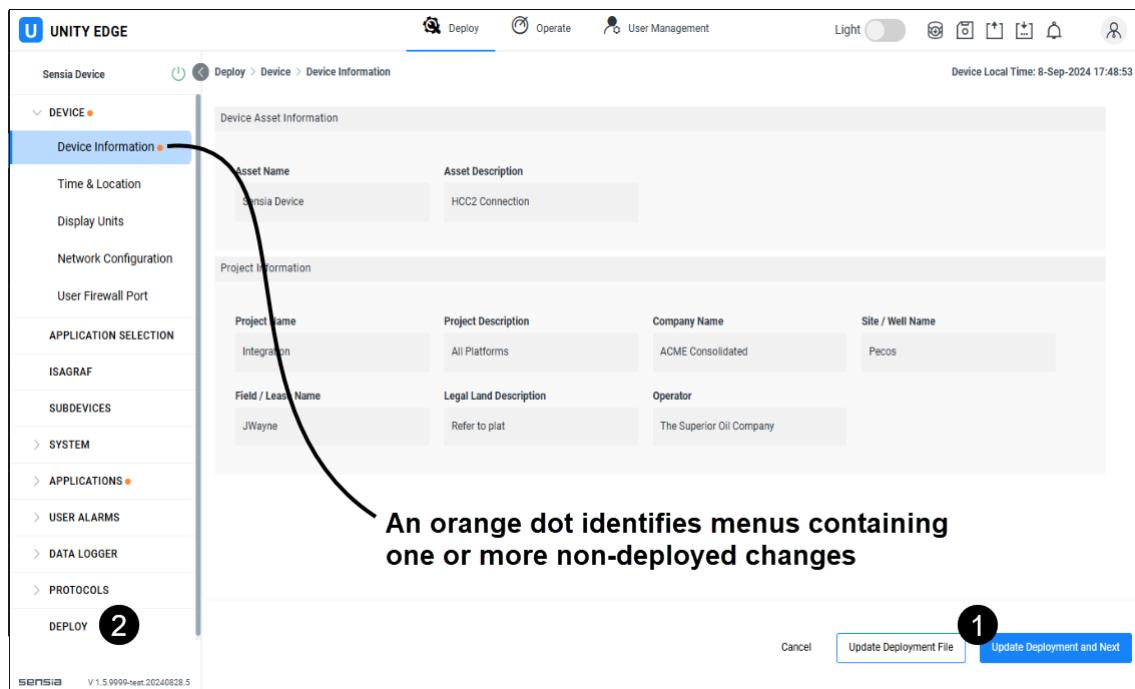

Figure 3.5—Two-step deployment process
1. First, you save your configuration changes to a deployment file using the Update Deployment buttons in the lower right corner of the screen (item 1, Figure 3.5).
2. Then, you use the Deploy wizard in the navigation tree on the left (item 2, Figure 3.5) to apply the changes to the HCC2. Until this step is complete, the HCC2 configuration will be unchanged.